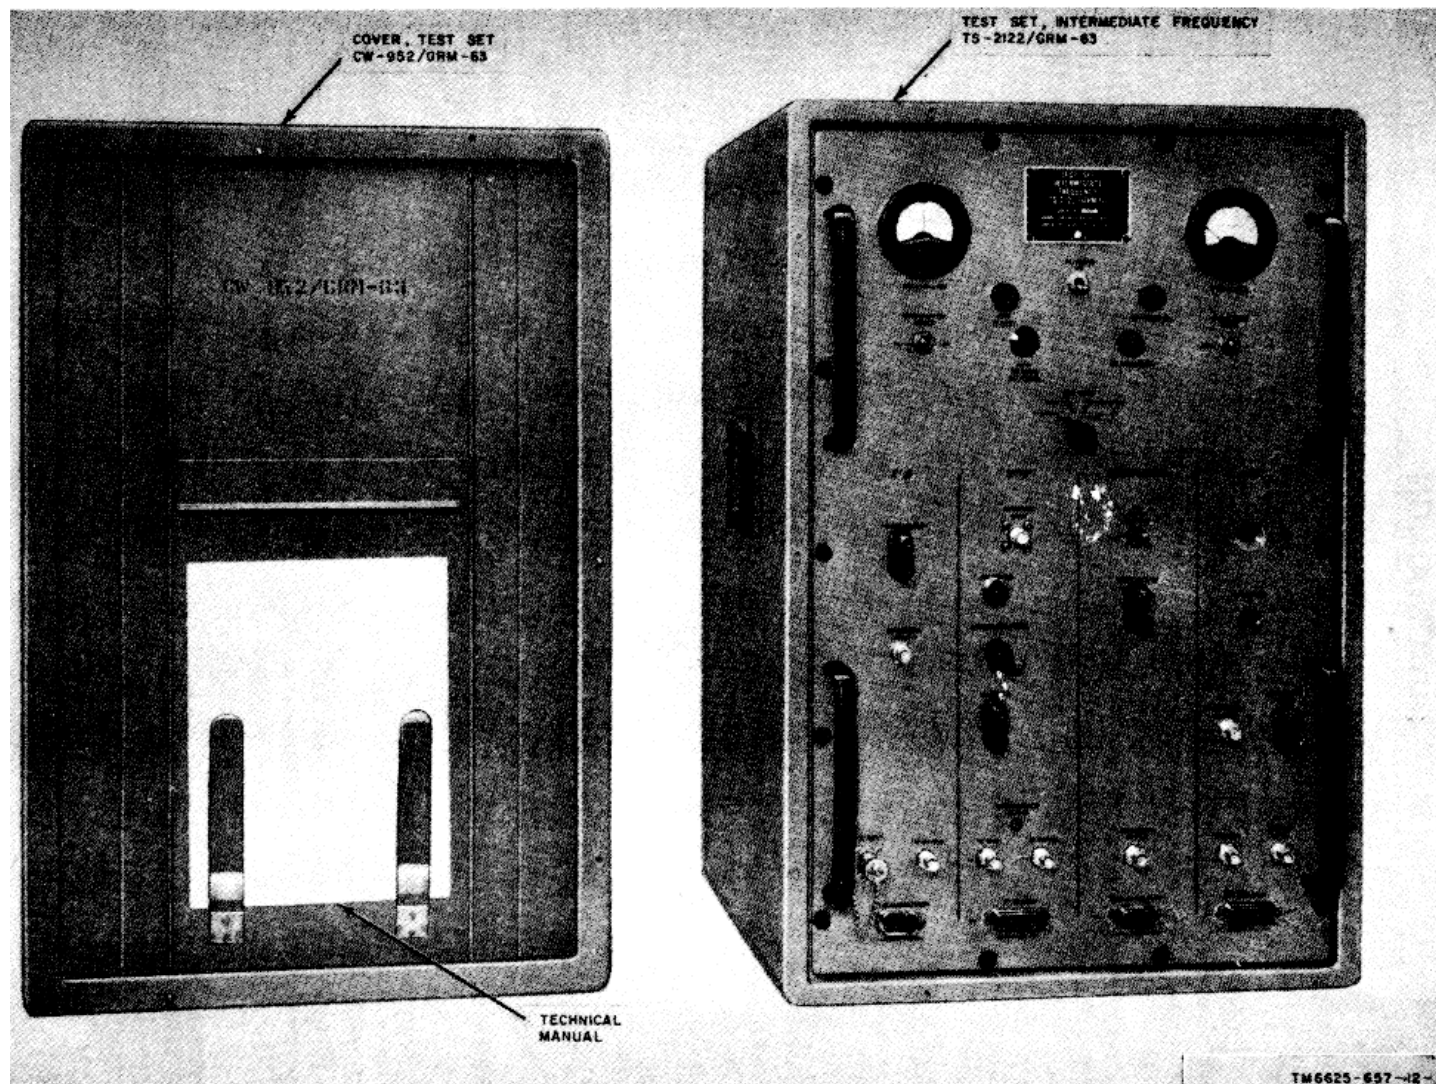

Figure 1-1. Test set, Intermediate Frequency AN/GRM-63, less running spares and minor assemblies.
a. Throughout this manual describes Test Set, Intermediate Frequency AN/GRM-63 (fig. 1-1) and covers the installation, limited operation, and operator and organizational maintenance. It includes instructions for operation under usual conditions, cleaning, and inspection of the equipment, and replacement of parts available to the operator and organizational repairman.
b. Operation of the AN/GRM-63, in conjunction with other test equipment (para 1-10) to test components of Radio Set AN/GRC-50(*) (V) (para 1-5a), is covered in the maintenance manual for Radio Set AN/GRC-50(*) (V), TM 11-5820-461-35.
(1) Radio set AN/GRC-50(*) (V) represents Radio Sets AN/GRC-50(V)1, 2, 3, 4, 5, and Radio Sets AN/GRC-50A(V)1, 2, 3, 4, 5, 6, and 7.
(2) Amplifier-Converter AM-1955(*)/GRC represents Amplifier-Converters AM-1955/GRC and AM-1955A/GRC (assemblies 3A1).
(3) Amplifier-Converter AM-1956(*)/GRC represents Amplifier-Converters AM-1956/GRC and AM-1956A/GRC (assemblies 3A2).